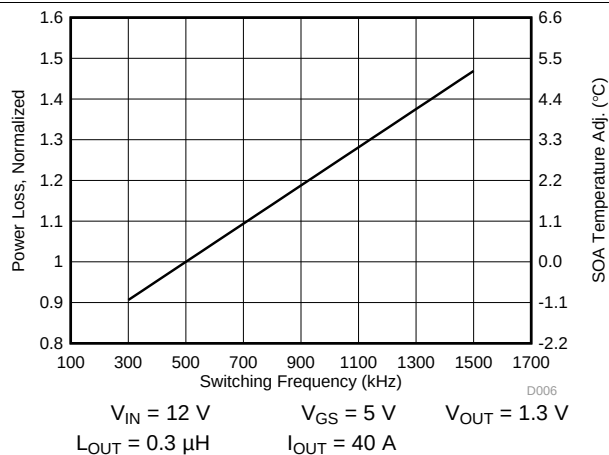

图 4. Normalized Power Loss vs Switching Frequency
- Normalized power loss for switching frequency ≈ 1.21 (图 4)